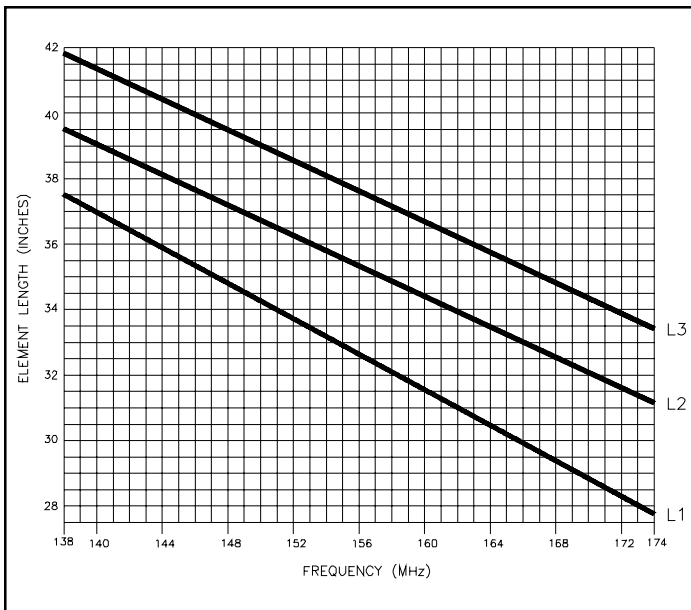
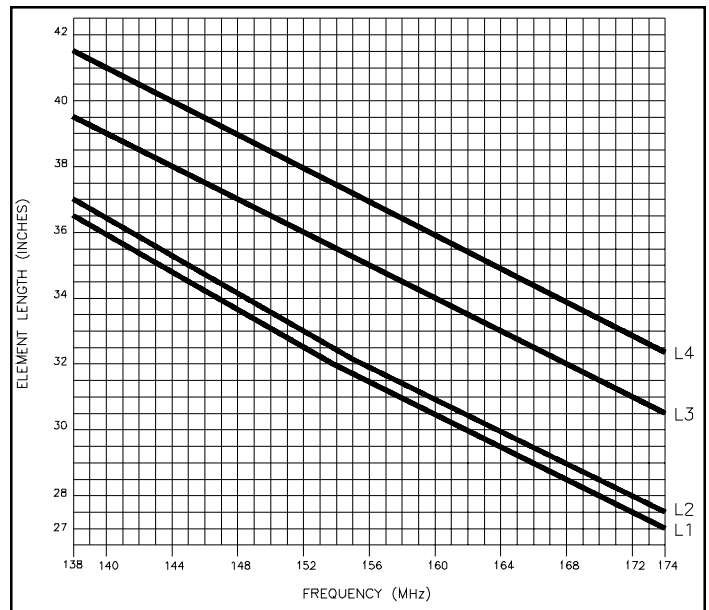

Figure 5: ASP816 Three-Element Cutting Chart
Figure 6: ASP817 Five-Element Cutting Chart
2. Using a hacksaw or tube cutter, cut the director element, the driven element and the reflector element to the desired frequency length. To determine the lengths, refer to the cutting charts shown in Figure 5 for the ASP816 and Figure 6 for the ASP817.